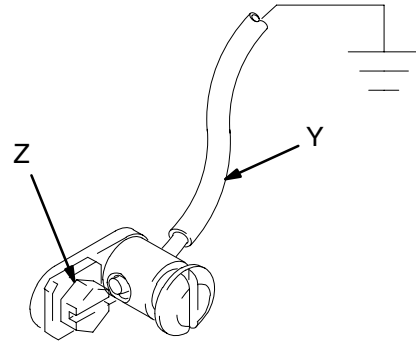

Fig. 2
- *Pump:* Remove ground screw (Z) and insert through the eye of the ring terminal at the end of ground wire (Y). Fasten ground screw back onto the pump and tighten securely. Connect the other end of the wire to a true earth ground. See Fig. 2. Order part number 222011 Grounding Clamp and Wire.